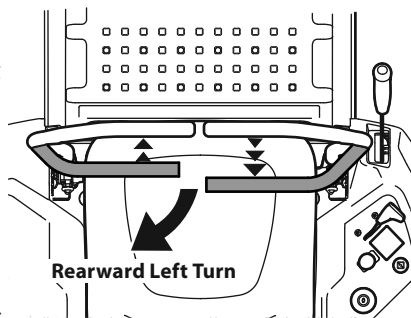

Figure 25
1. To turn to the left while traveling in reverse, move the left drive control lever forward of the right drive control lever. See Figure 25.